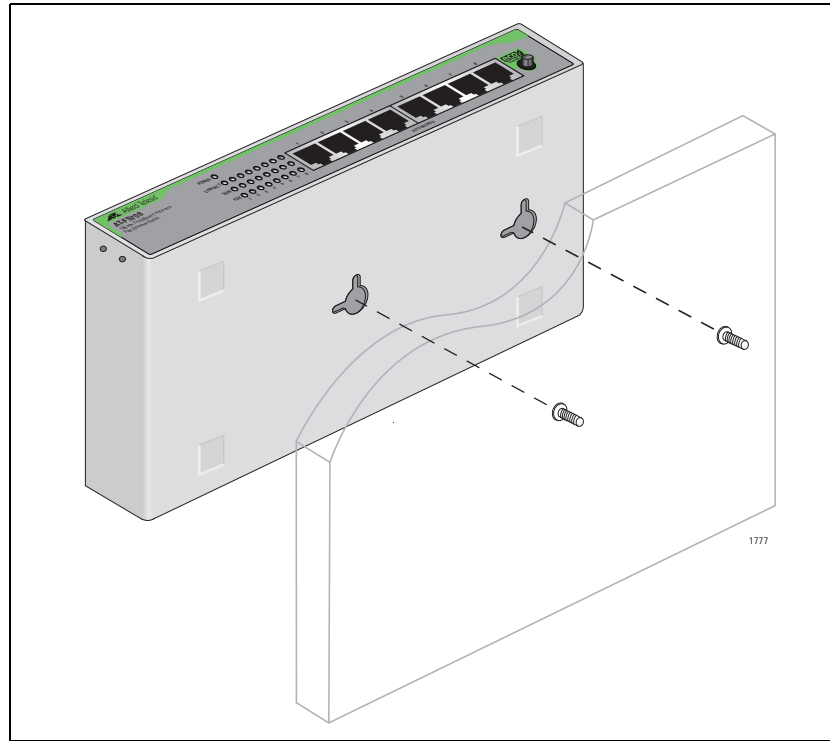

Figure 5. Aligning an AT-FS708 for Wallmount Installation
7. Align the switch horizontally. And then position and hang the switch onto the wall using the two keyhole slots located in the bottom of the switch, as illustrated in Figure 5.